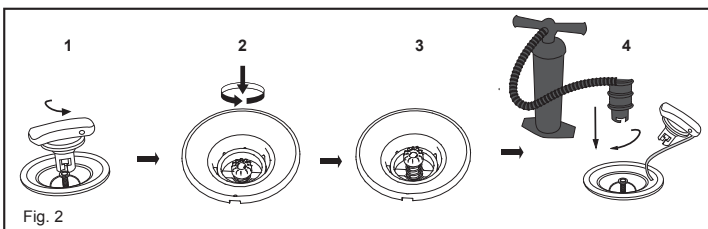
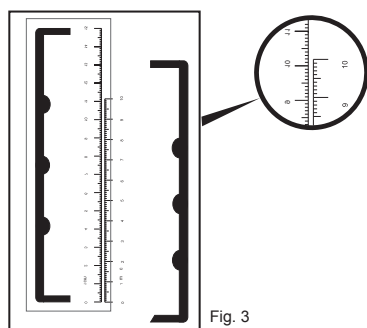

Fig. 2
Fig. 3
3. Inflate the kayak by unscrewing the cap of the air valve (Fig.2 pos.1). Ensure that the inner spring valve is not depressed. If it is depressed (Fig. 2 pos. 2), press the spring valve and turn counter clockwise so the inner spring valve is in the correct position (Fig.2 pos. 3). Inflate the kayak to 0.15 bar (2 psi). After inflation, screw the cap of air valve (Fig.2 pos. 4). An inflation scale is provided with the product. Inflate the product until the printed scale is charged up to the same level as that of the supplied scale(Fig. 3). (refer the belowing Table and Illustration)